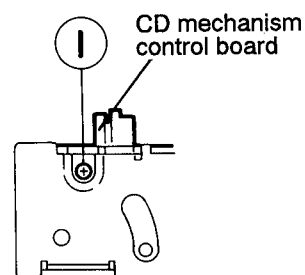

Fig. 2-12
7. Remove the two screws ① retaining the front bracket for fixing the CD mechanism control P. C. board (See Fig. 2-12).